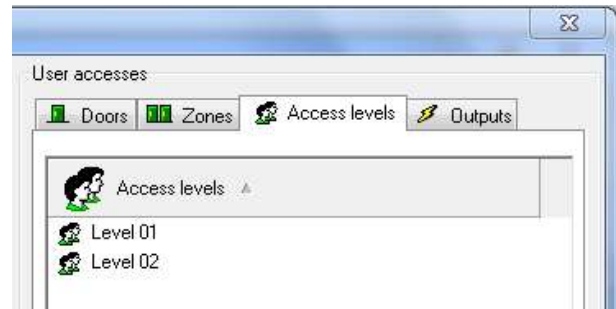

Figure 44
- 1/ into the Access lever window, as shown in Figure 44, we add users into the list using button +/-, for each of the access levels where we want the user to belong to.